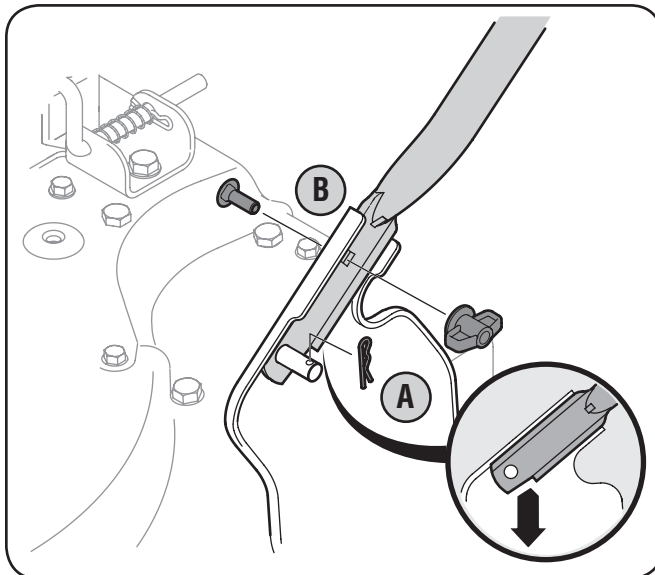

Figure 3-1
- a. Place the bottom holes in lower handle over the pins on the handle brackets with notch in handle pointing downwards and secure with hairpin clips. See Fig. 3-1.
- b. Insert carriage screws through upper hole in lower handle from the inside and secure with wing nuts. See Fig. 3-1.